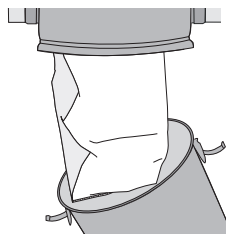

figure 9
1. To access the bag, unlatch the two clips and remove the dust receptacle (**figure 9**).